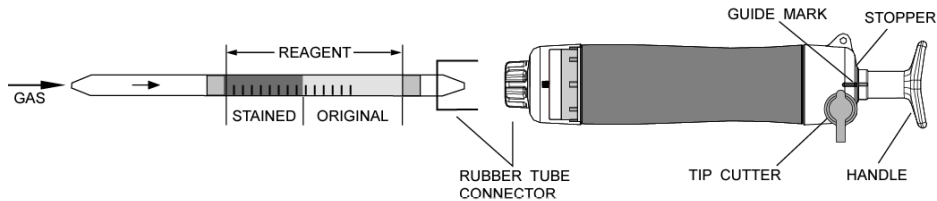

Fig.1
- ② Insert the detector tube into aspirating pump securely as shown in Fig.1 (Arrow mark shall point to the pump.)
- ③ Align the guide marks on the shaft and stopper of the aspirating pump.
- ④ Pull the pump handle on full stroke locked position and wait for 1 minute or until the completion of sampling is confirmed with the flow indicator of the pump (See descriptions about the flow indicator in the instruction manual of the pump).
- ⑤ On completion of sampling, read the scale at the maximum point of the stained layer.
- ⑥ In this case, true concentration is half of the reading value.
- ⑦ If the discolouration is over the scale, change the tube and do the following 1/2 pump strokes.